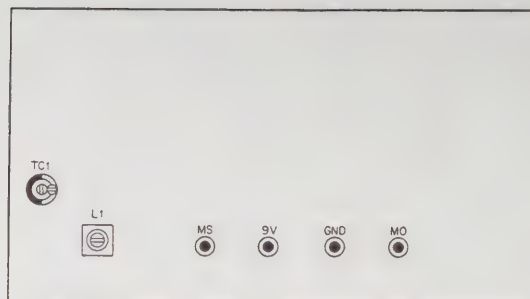

Fig. 29 MARKER unit
- 2) Set the FUNCTION switch to CAL 25 kHz and adjust TC1 in the marker unit for 100,000 Hz \pm 1 Hz (refer to Fig. 29).